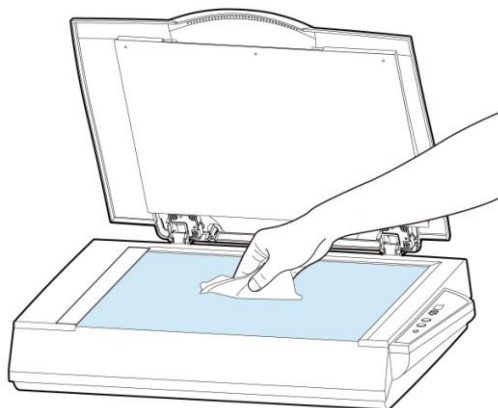

Figure 7-1 The cleaning area
- 2) Open the document cover as shown in Figure 7-1. Wipe the document glass.